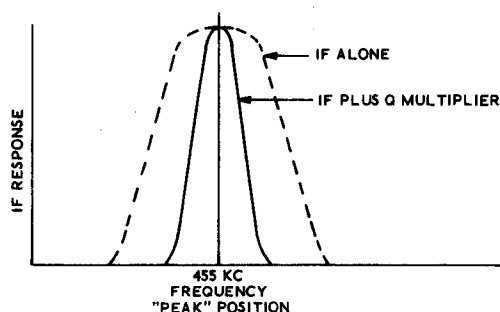

Figure 4
1. It can be used to peak a desired signal by performing like a very high Q parallel resonant circuit. See Figure 4. As the Q is increased, the side slopes of the resonant peak become steeper and steeper. Therefore, at the resonant frequency of the Q Multiplier, the desired signal "sees" a